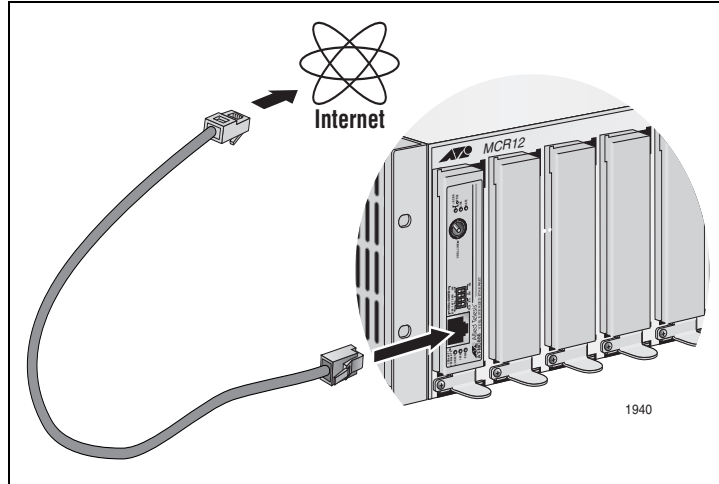

Figure 16. Connecting AT-MC606 Ethernet Port to an Internet Service Provider
1. Connect the Ethernet cable from the Ethernet port to the Service Provider box (ISP) in your wiring closet, as shown in Figure 16.